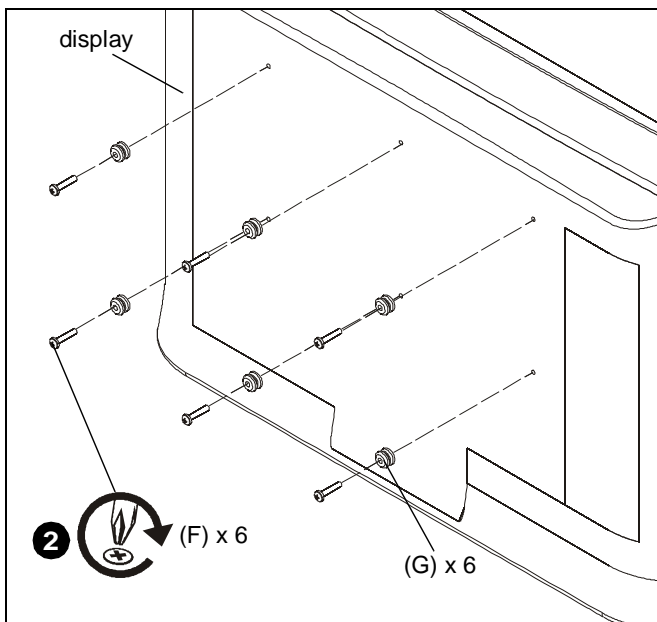

Figure 2
2. Attach mounting buttons (G) to back of display using M6x30mm Phillips head cap screws (F). (See Figure 2)